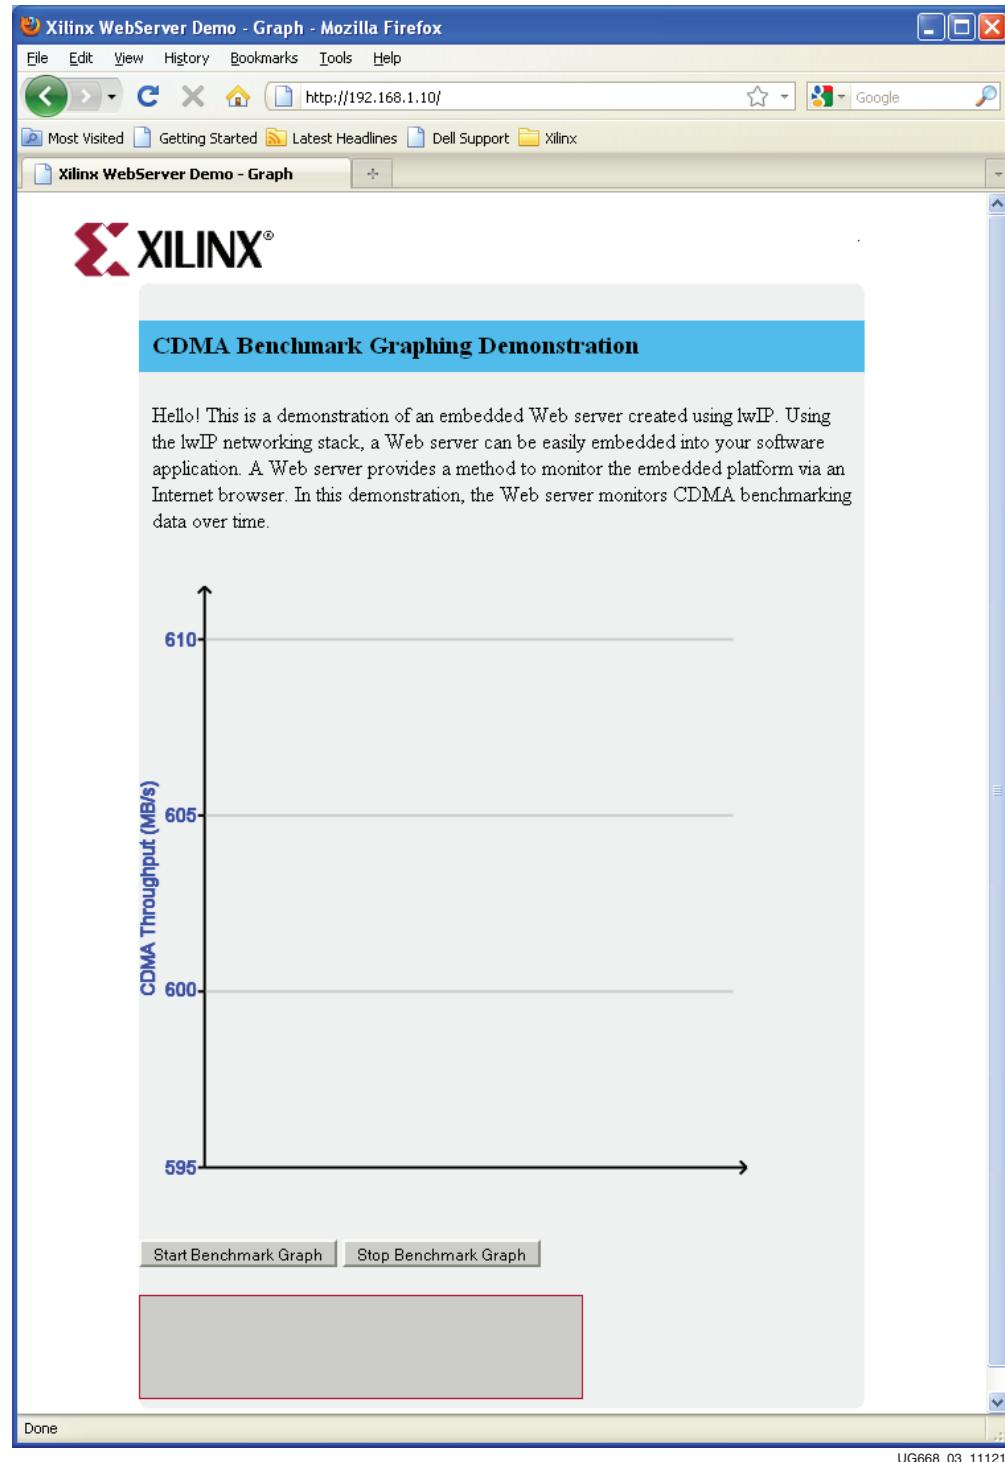

Figure 3: Initial Benchmarking Demonstration Web Page
2. Open a web browser on the host computer and set the URL to **192.168.1.10**. The web page shown in Figure 3 should be displayed. The Web page uses Javascript, so the browser must have Javascript enabled.